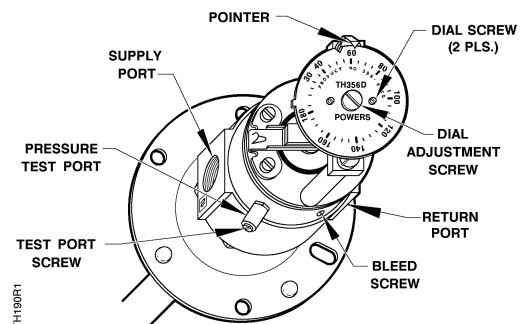

Figure 9. Limitem Cover Removed.
2. With a screwdriver, turn dial adjustment screw (Figure 9) to change to the desired set point.
- If a permanent return air gauge is not installed, use the pressure test port. See *Figure 9* for its location.
- Loosen the dial screws. (*Figure 9*)